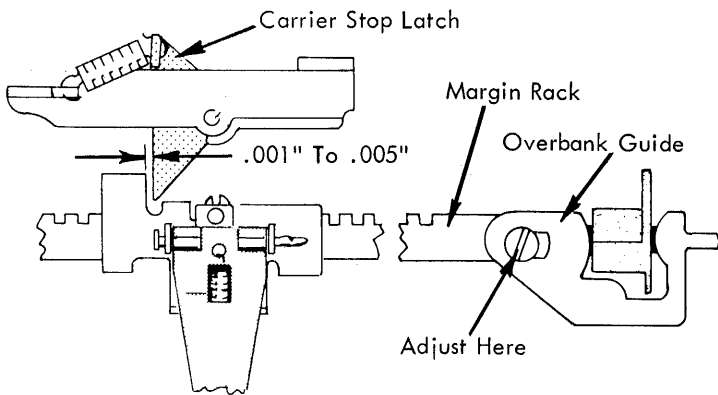

FIGURE 245. Margin Rack Overbank Guide
- Margin Rack Overbank Guide - With the carrier resting at the left hand margin, adjust the overbank guide (Fig. 245) left or right on the margin rack to obtain .001" to .005" clearance between the margin stop and the margin stop latch on the carrier when the margin rack is in its rest position (Fig. 245). When observing this clearance remove the floating action of the margin stop latch by pulling the stop latch to the right with a spring hook.